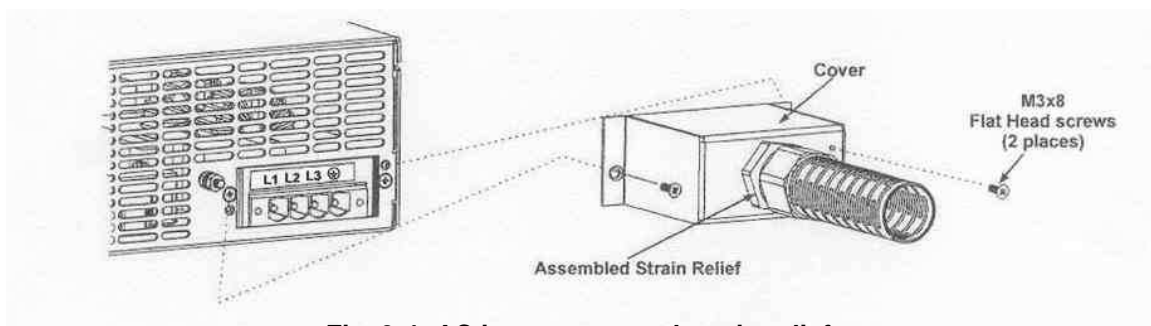

Fig. 3-4: AC input cover and strain relief
- Route the wires inside the cover to prevent pinching. Fasten the cover to the unit using the M3x8 Flat Head screws are provided. Refer to Fig.3-4 for details. Tighten screws securely (4.8 - 4.9LB-inch, 0.54- -0.55 Nm)